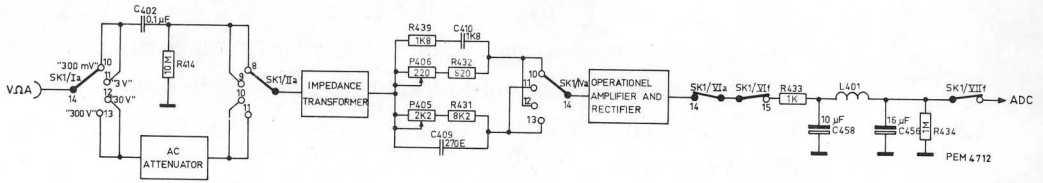

Fig. 10. AC voltage circuit
4. AC voltage circuit (Fig. 10)